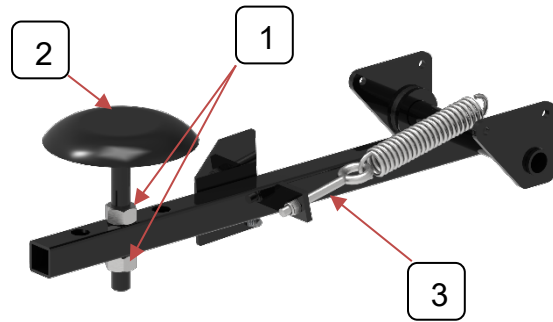

Fig. 6.5
1. Loosen nuts, 1 (Figure 6.5) on threaded rod.
Check bale trigger spring tension (#3 Figure 6.5) every 50 hours or weekly. Adjust, if necessary.